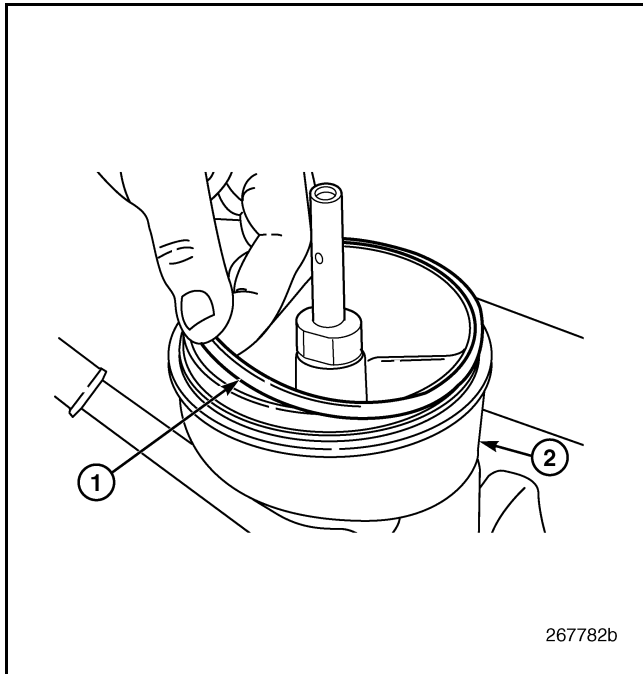

Figure 111 — O-Ring Installation
6. Install a **new** O-ring on the filter housing base (Figure 111). The O-ring should be installed dry, non-lubricated.